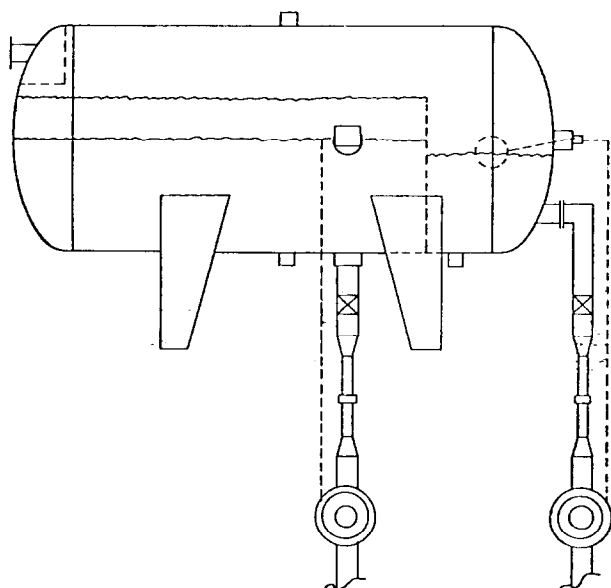

FIGURE 9
- E. Three-phased with spillover weir and oil compartment. Oil is controlled by level control and motor valve. This makes an excellent vessel for metering water and oil (see Figure 9).